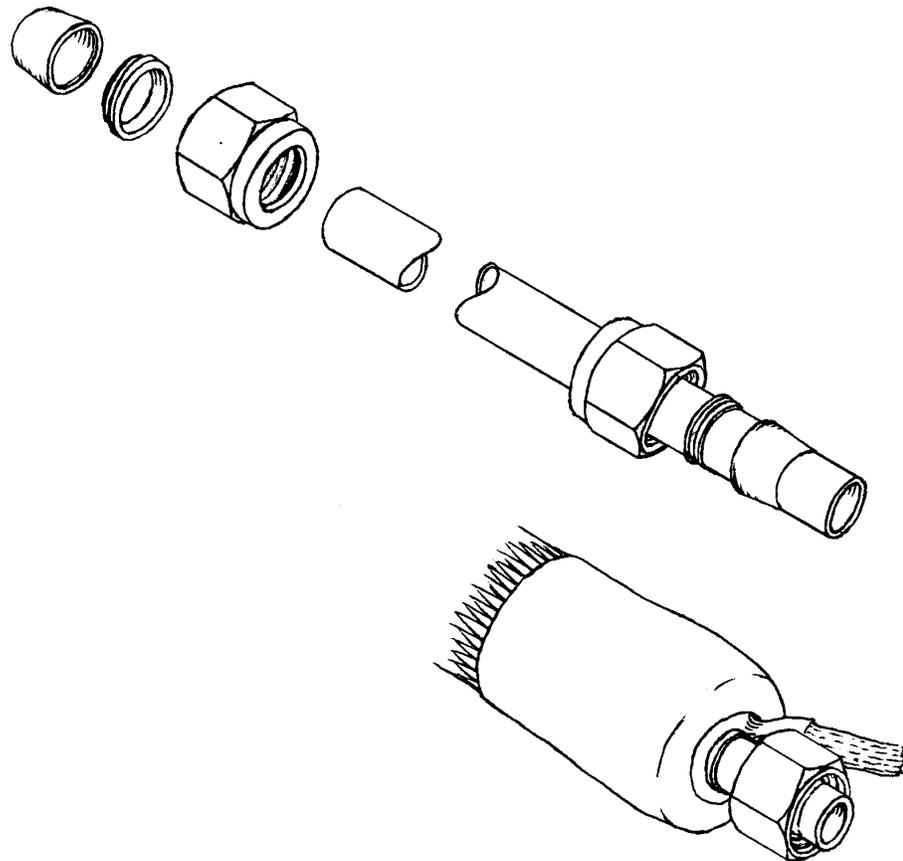

Figure 8-9
3. Slide nut onto tubing, then items 2 and 3 as shown in Figure 8-9.